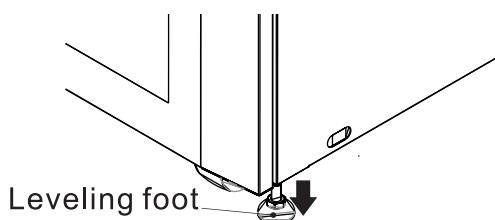

Figure 4.5
- Once the UPS is in final position, rotate the leveling feet clockwise below the level of the casters to secure in place (Figure 4.5). Do not rest the UPS permanently on the casters.